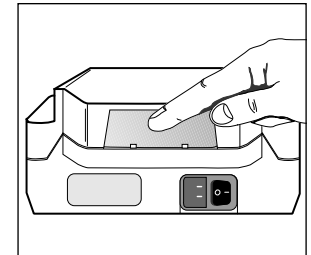

Figure 9
1. The air-inlet filter should be checked daily. The filter is located in the rear of the unit **Figure 9**.